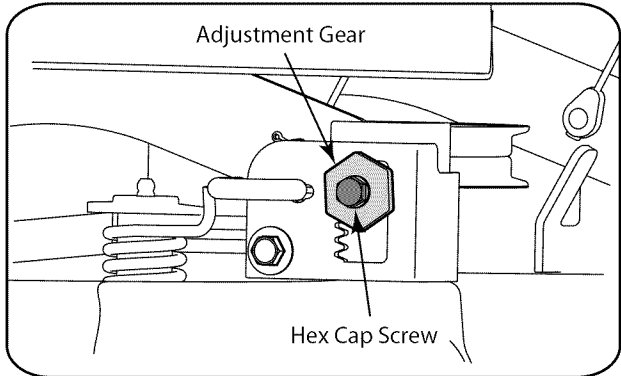

Figure 6-6
- Working from the left side of the tractor, loosen, but do not remove, the hex cap screw in the left deck adjustment bracket. See Figure 6-6.
- To even the deck turn the adjustment gear, located immediately behind the hex cap screw, clockwise (rearward) to lower the left side of the deck. Turn the gear counter-clockwise (toward front) to raise the left side of the deck. See Figure 6-6.